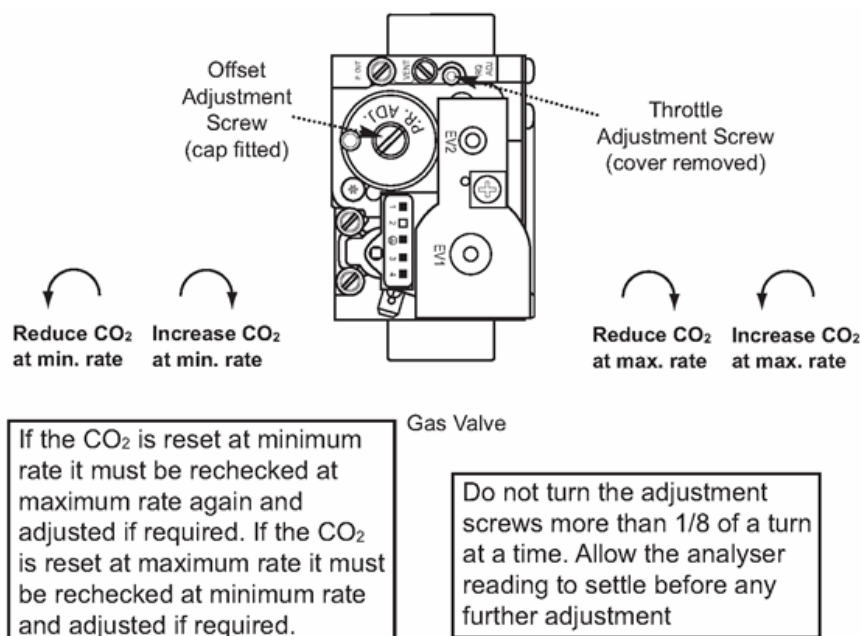

Fig. 100
2. It is possible to alter the CO₂ by adjustment of the gas valve. At maximum rate the Throttle Adjustment Screw should be turned, using a suitable 2.5mm hexagon key, until the correct reading is obtained (Fig. 100).
4. With the boiler on minimum, the Offset Adjustment Screw must be altered, using a suitable 4mm hexagon key, after removing the cap (Fig. 100).